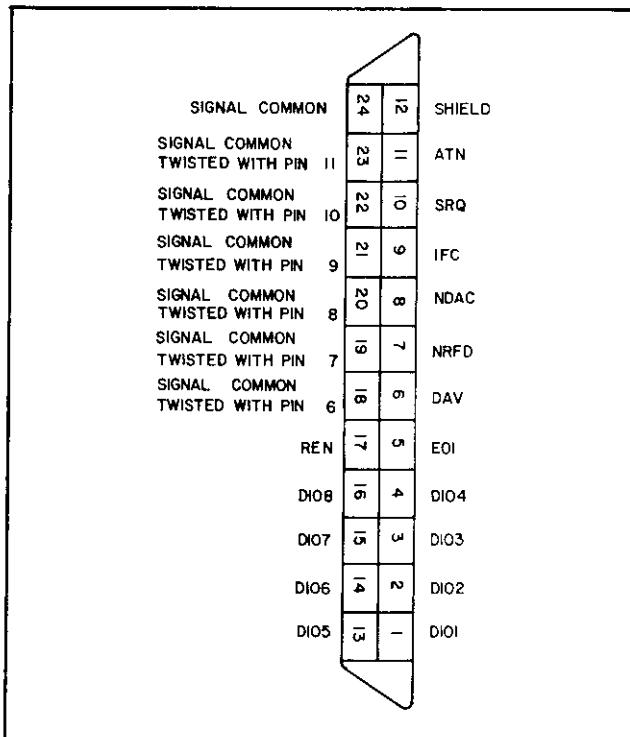

Figure 3-11. HP-IB Connector
**3-66 Connections between the 6034A and the HP-IB** are made via the HP-IB connector on the rear panel. Figure 3-11 shows the signals at each of the HP-IB connector pins. The HP-IB connectors table in Section I lists cables and cable accessories that are available from HP. The 6034A HP-IB connector uses metric threads, which are colored black. Cables manufactured prior to 1975 have non-metric fasteners, which are colored silver. Do not attempt to mate non-metric (silver) fasteners with metric (black) fasteners (see accessories table for conversion kit).